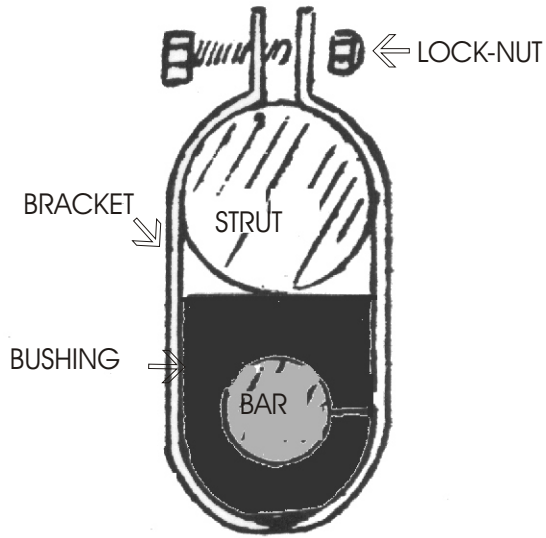

FIG. 1
- STEP #3.** Raise the bar up to the struts; make sure the bar is not upside down. Put the large clamps over the struts and bushing. Place them in the same location as the original large brackets were with the holes up as shown in Fig. 1. With the bushing around the bar, near the first bend in the bar, and the bracket around the bushing and strut, put the nuts and bolts on (do not tighten). Vise grips or C-clamps can make this easier.